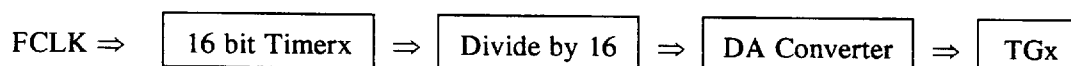

Figure 1-13 Tone Generator Block Diagram
Each Tone Generator(TGx), as shown in figure 1-13 is comprised of a 16 bit timer and a 16 step divider circuit that selects the proper Digital to Analog (DA) output level. The enable bits for the tone generators are located in bits 1 and 2 of the BCR registers (see Figure 1-2).